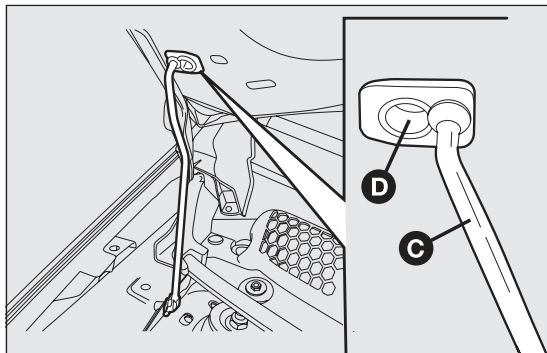

fig. 100
- ☐ lift the bonnet and, at the same time, release the bonnet stay C fig. 100 from its locking device, then insert the end of the stay into the housing D.
- ☐ hold the bonnet up with one hand and with the other remove the stay C fig. 100 from the housing D and fit it back in its locking device;